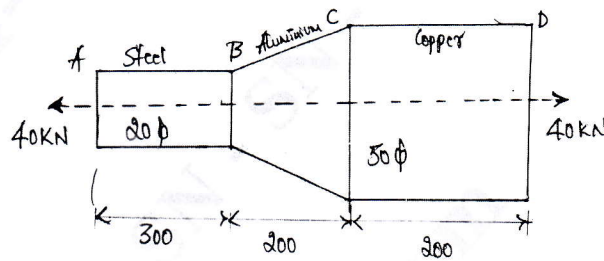

Fig.Q1(b)
b. A stepped bar is subjected to an external loading as shown in Fig.Q1(b). Calculate the change in the length of bar. Take $E = 200\text{GPa}$ for steel. $E = 70\text{GPa}$ for Aluminum and $E = 100\text{GPa}$ for Copper. (10 Marks)